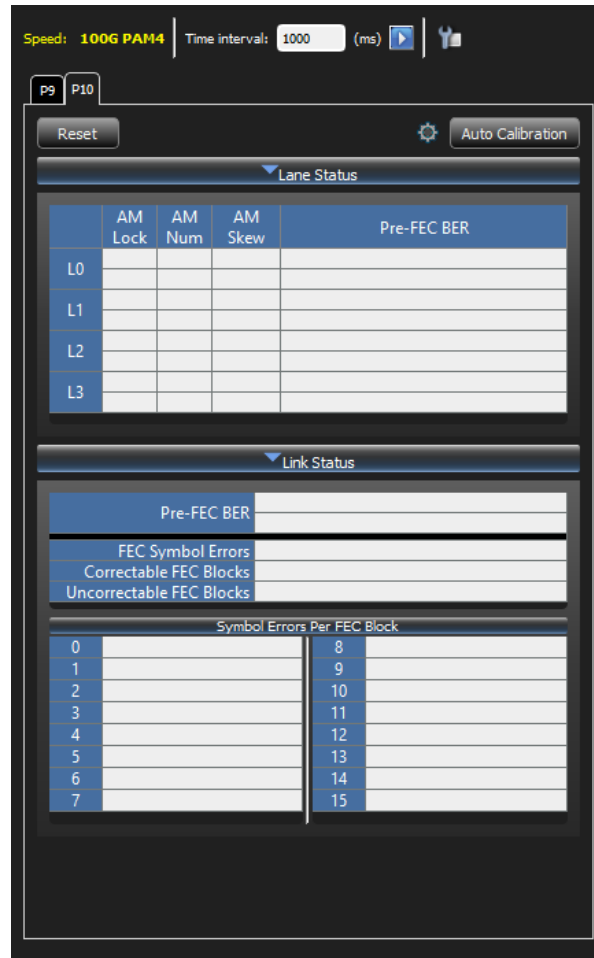
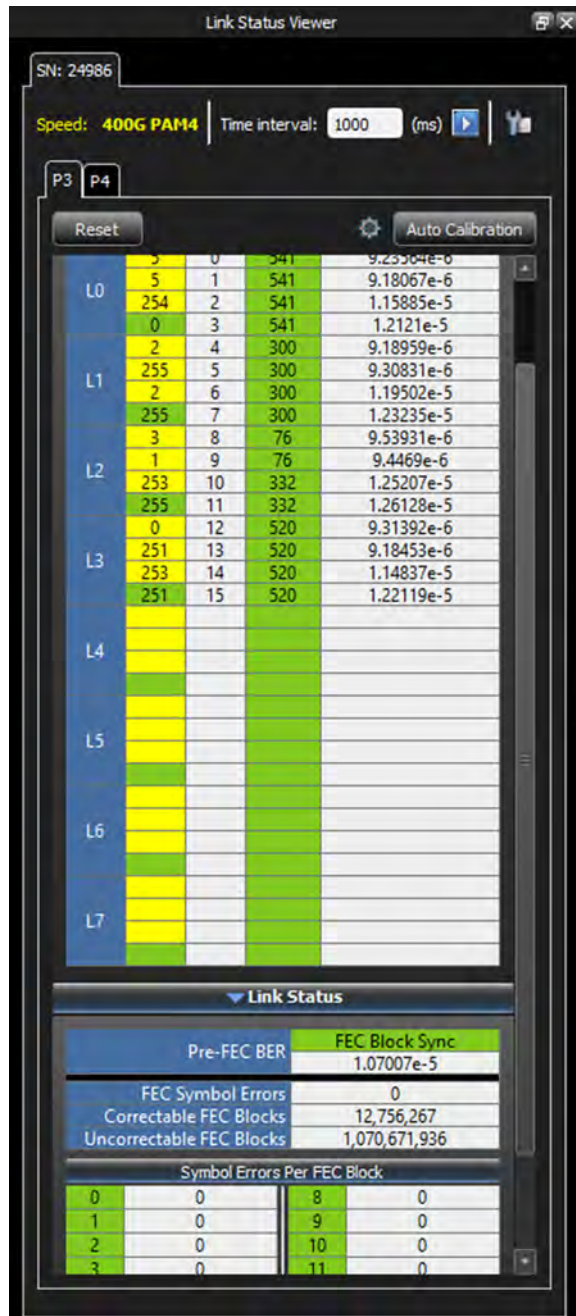

Figure 4.179: Link Status Viewer (for M648)
Figure 4.180: Link Status Viewer (for M1288)
- 2. Click the Show Link Status Viewer. The Link Status Pane displays: Figure 4.179 for the M648 and Figure 4.180 for the M1288.